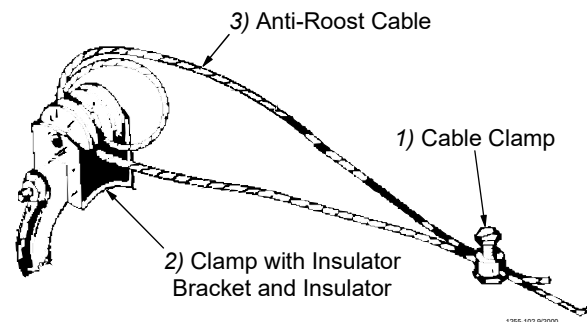

Figure 70. Anti-Roost Cable at the Hopper
2. Start at the hopper end of the line and form a loop around the anti-roost bracket. For best results, make a double loop around the anti-roost insulator in the center groove of the insulator and fasten with a 1/16" cable clamp as shown in **Figure 70**.